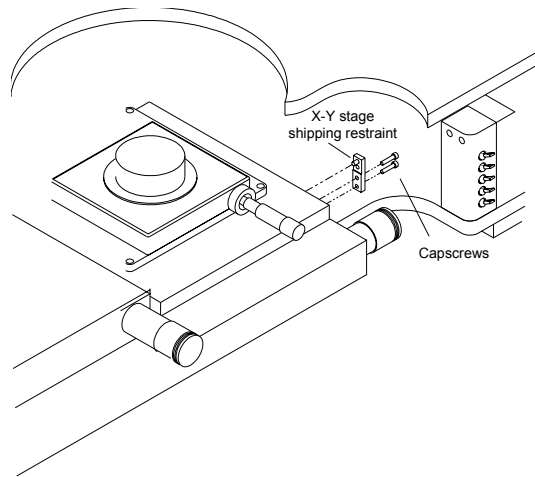

Fig. 16. X-y stage shipping restraint.
1. Unscrew the (2) #8 screws holding the X-Y stage shipping restraint (marked with a red tag) and remove (fig. 16).